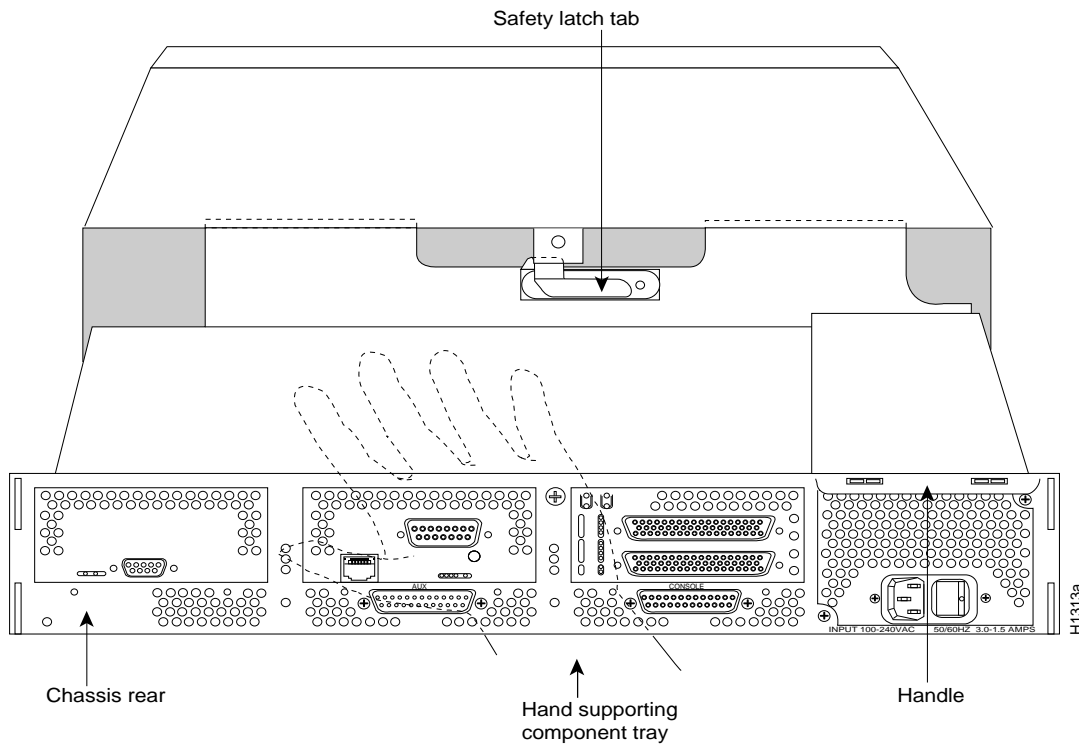

Figure 2 Safety Latch Tab Location
Step 2: Slide the component tray out of the chassis shell while facing the chassis rear panel, pulling the handle on the right side of the chassis until the safety latch catches (see Figure 2).
Warning: Before releasing the safety latch, support the component tray from underneath either on your work surface or with your hands to prevent it from falling (see Figure 2).